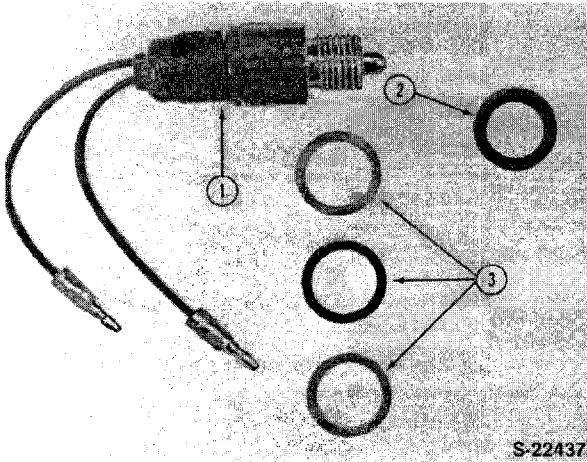

Figure 65
3. Position the PTO lever in neutral position, and the ohmmeter should then indicate that the switch contacts are closed. If required, remove the switch (1), Figure 65, and add or subtract shims as needed.